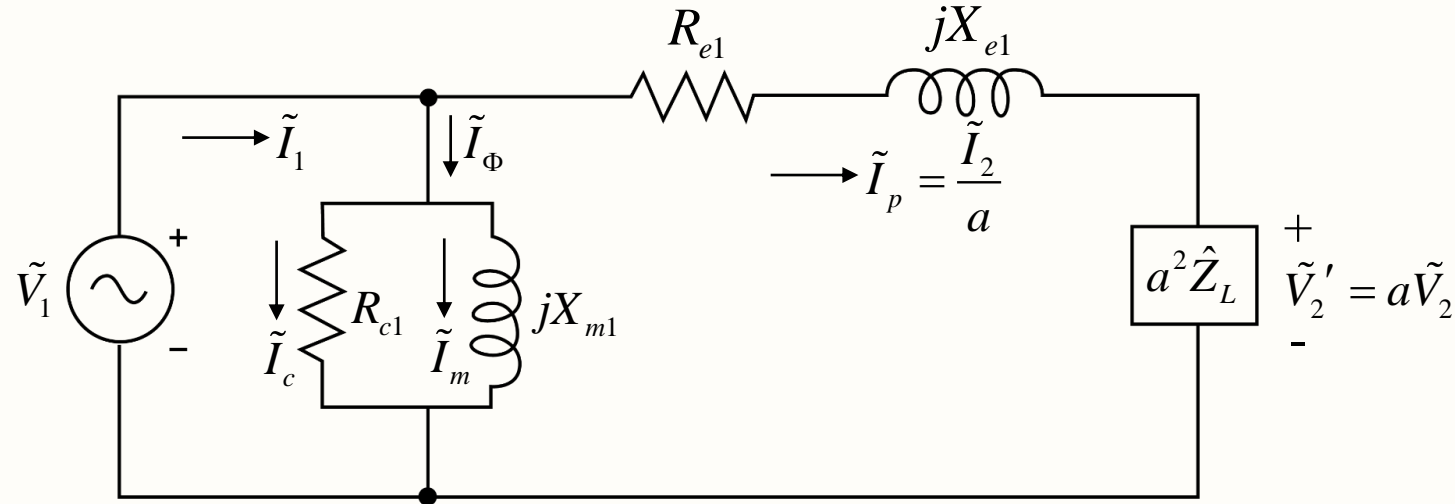

Fig. 23. Approximate equivalent circuit referred to the primary.
- ❖ They are called the total effective resistance and the total effective leakage reactance referred to the primary side (side 1) respectively, as shown in Fig. 23.